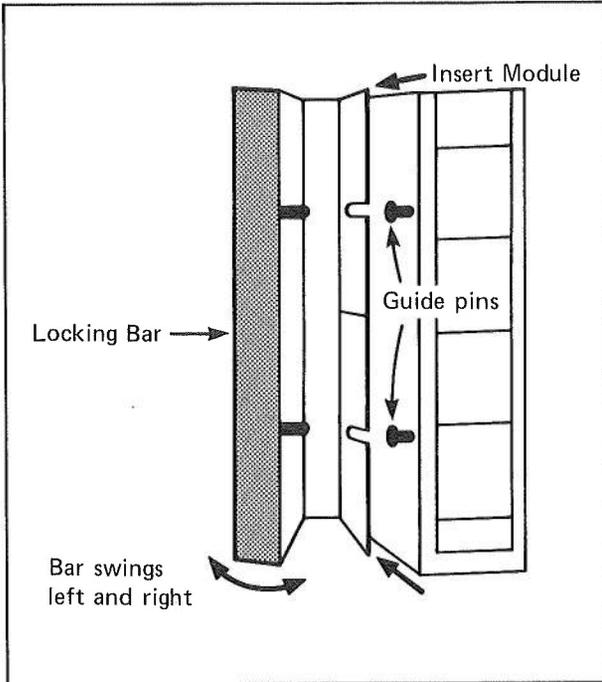

Figure 5 – Guide Slots
Step 3 – Move the Locking Bar on the I/O Rack's built-in terminal block to the left to uncover the guide slots on the block. (See Figure 5.)